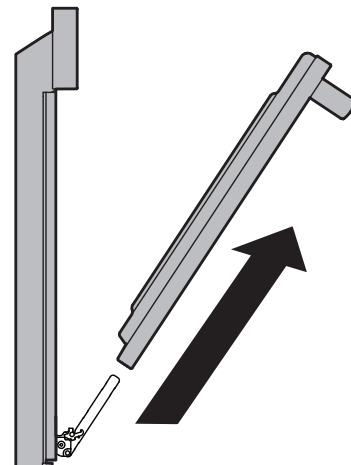

Figure 24: Remove door
4. Pull the bottom of the door toward you while rotating the top of the door toward the appliance to completely disengage the hinge levers (Figure 24).
1. Firmly grasp both sides of oven door along the door sides. Do not use the oven door handle (Figure 24).